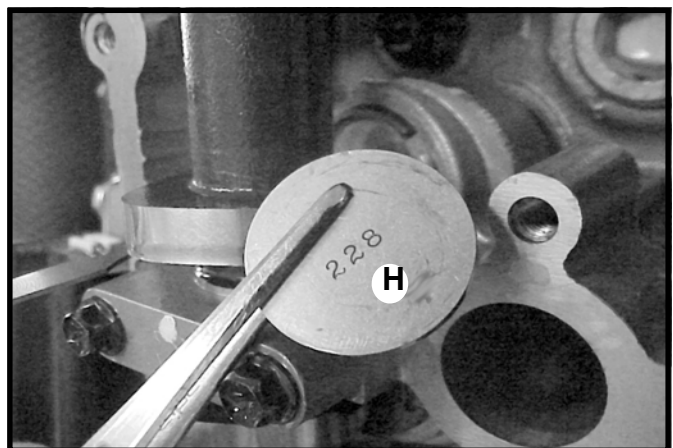

Fig 7
6. Use a forceps / small screwdriver / magnet to pick out the shim. Read the size number "H" or measure the shim's thickness with a micrometer or caliper to determine the size (Fig 7).